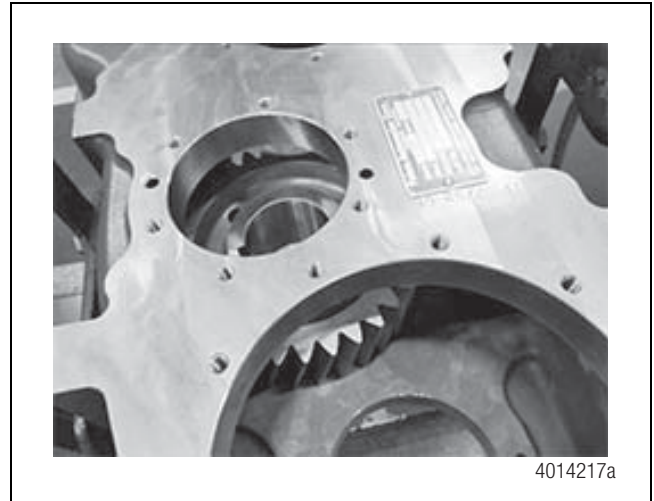

Figure 6.28
2. Heat the intermediate shaft gear and lower it into the transfer case housing through the lower or upper shaft bore. Position the gear against the rear of the housing in line with the intermediate shaft bores. Figure 6.28.